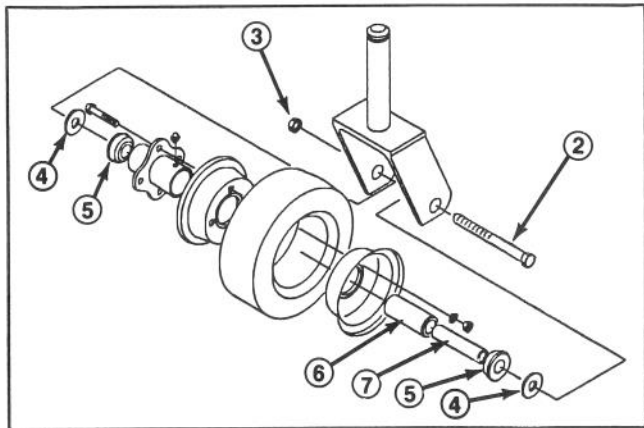

Figure 8
1. Remove locknut from capscrew holding castor wheel assembly between castor fork (Fig. 8). Grasp castor wheel and slide capscrew out of fork.
Note: Account for the two bearing retainers and washers (Fig. 8).
2. Tip wheel to the side and allow roller bearing and spanner bushing to fall out (Fig. 8).
6. Pump more grease through grease fitting on wheel (Fig. 8) until bearing is greased thoroughly.